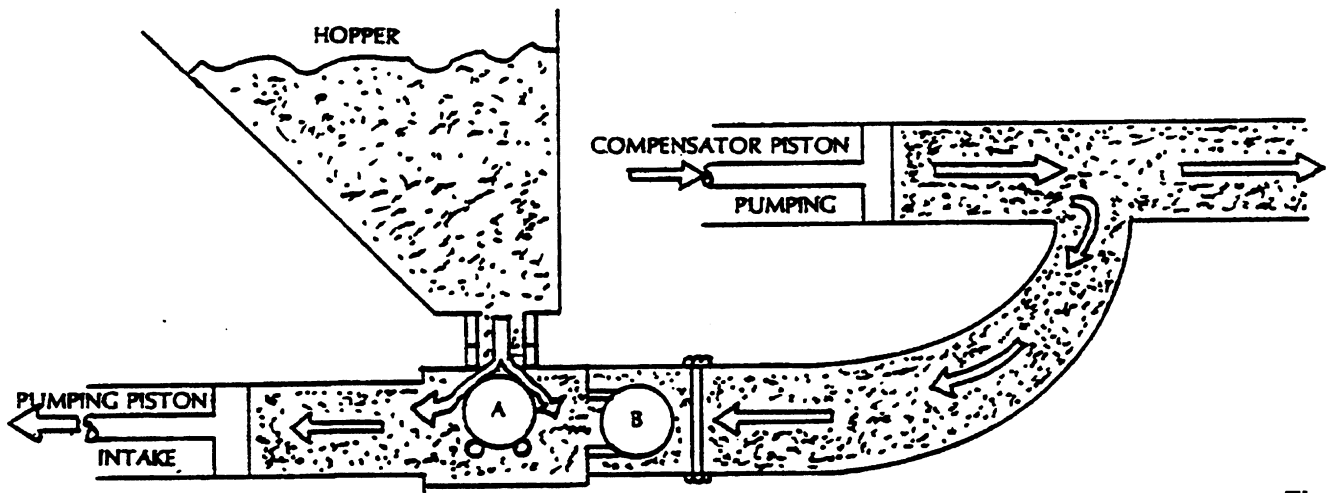

Figure 1
Figure 1- The pumping cylinder retracts drawing the material past the ball (A) and filling the cylinder. The compensator piston is pumping the material out to the nozzle and causing ball (B) to seat preventing the material from returning to the pumping cylinder intake.